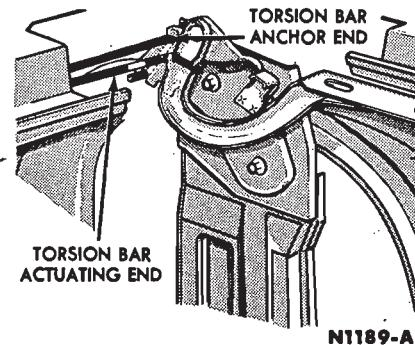

FIG. 9—Luggage Compartment Door Torsion Bar—Typical
3. Using a tool T64K-44890-B pry the anchor end of the torsion bar out of its adjustment notch (Fig. 9). Lower the deck lid and from inside the luggage compartment remove the bar.